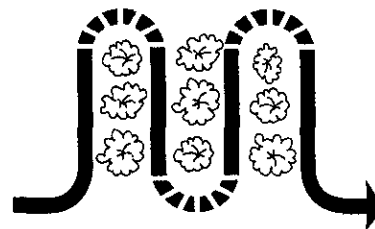

Figure 3-18
- With planning, you can allow enough room between rows to cultivate (see Figure 3-18). Leave room for the hood width, plus enough extra room for future plant growth.